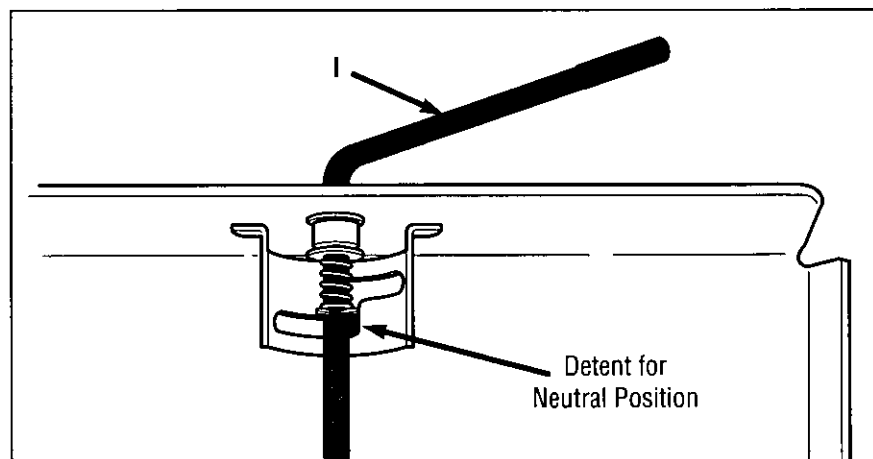

Figure 5-14: Gear Select Lever in neutral (N) position.
2. Rotate shift rod (I, Figures 5-14 and 5-15) clockwise until it stops in the neutral (N) position (from forward gear positions).
6. When shift arm (X) is in neutral position, rotate shift link (P) until hooked end fits back into hole in bottom end of shift rod (I).
**NOTE:** Shift rod (I) must be held in the neutral position (see Figure 5-14) while shift link (P) is adjusted.
7. Secure shift link (P) into shift rod (I) with cotter pin removed earlier.
8. Re-check neutral by pushing unit back and forth and shifting lever (I) from reverse to neutral. A small fine-tune adjustment may be required.